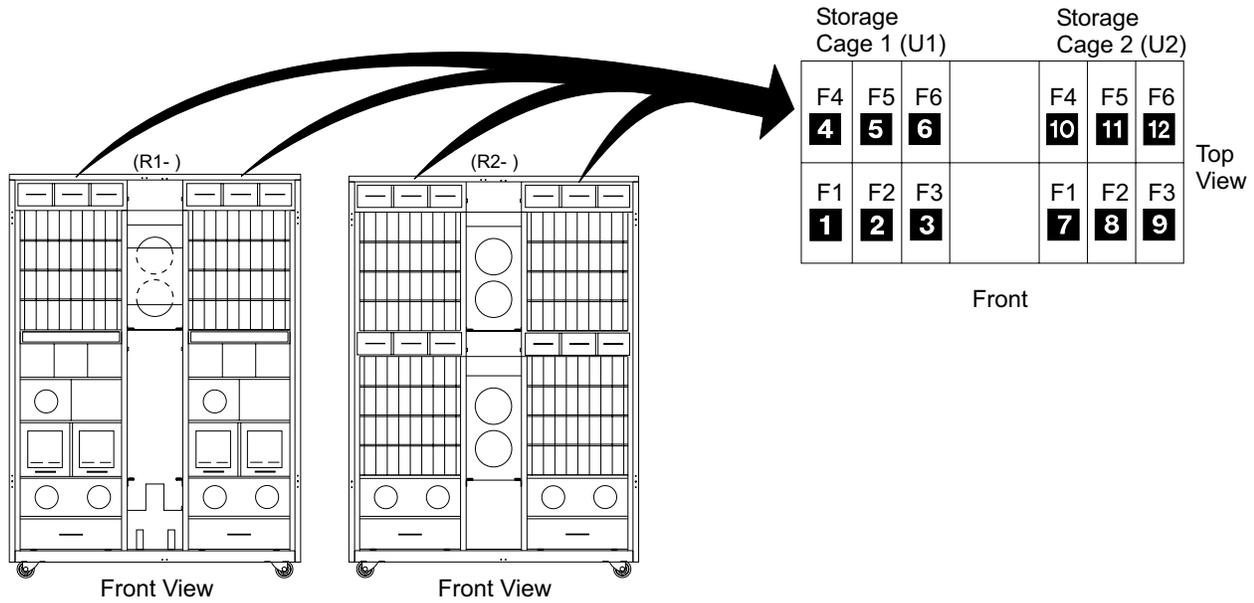

Figure 84. Storage Cage Fan Locations (S008251n)
1. Open the front or rear cover of the 2105 Model Exx/Fxx or 2105 Expansion Enclosure and locate the storage cage fan you will be removing: See Figure 84 on page 78.